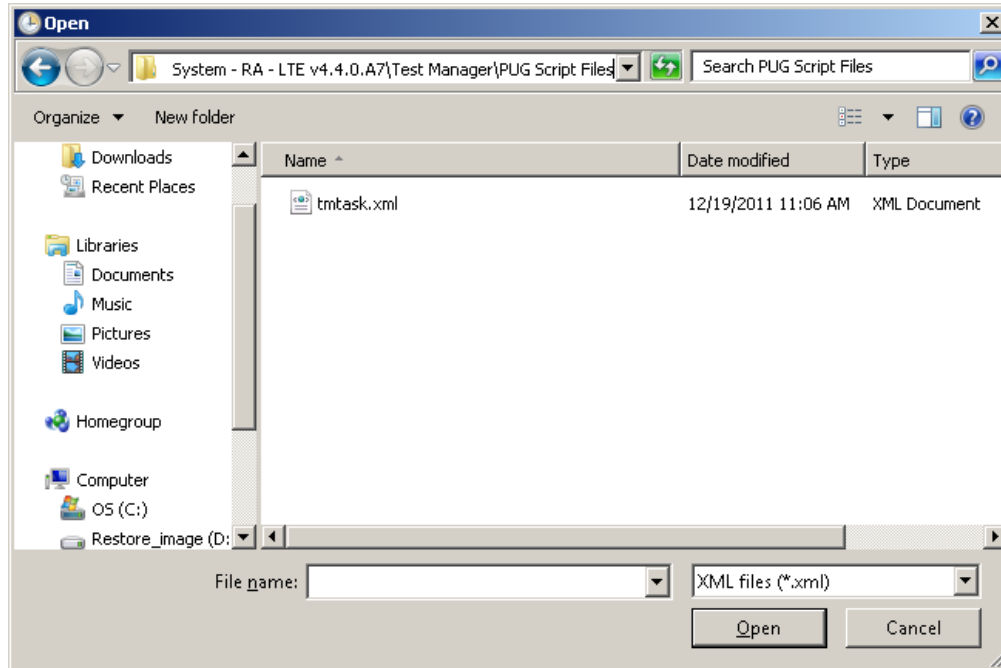

Figure 2-8: Opening the .xml File
3. Navigate to the <8100 – LTE 4.4.0 Installer Root>\Test Manager\PUG Script Files\ folder, select the **tmtask.xml** file and click **Open**, as shown in Figure 2-8.